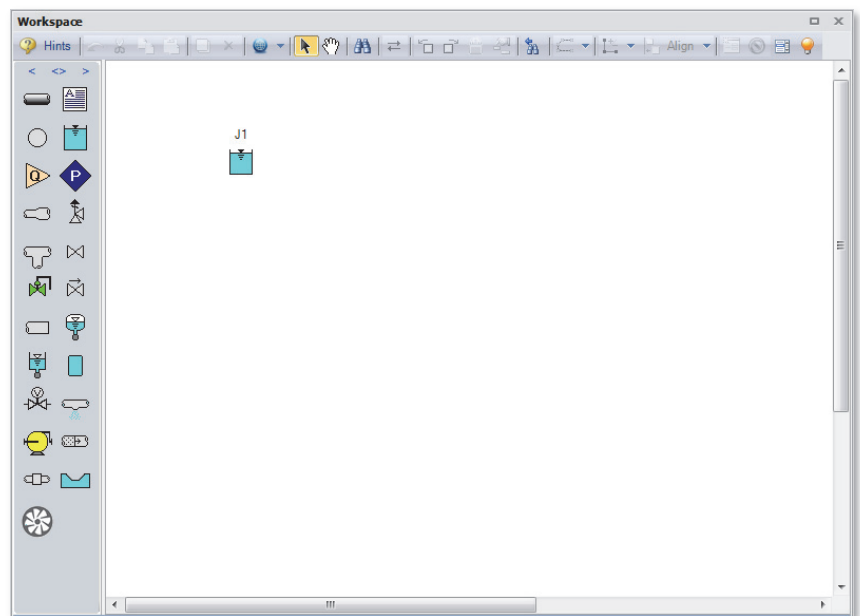

Figure 2.5a Valve closure model with first junction placed
- **To start, drag a Reservoir junction from the Toolbox** and drop it on the Workspace. Figure 2.5a shows the Workspace with one reservoir.